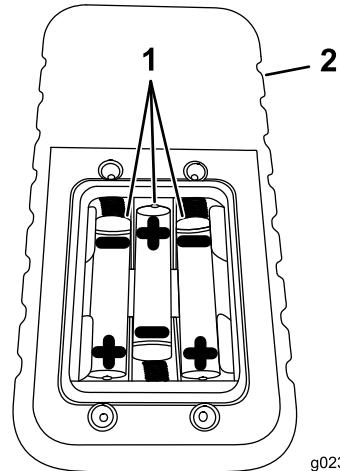

Figure 7
4. Install 3 new, AAA batteries in the orientation shown in Figure 7.